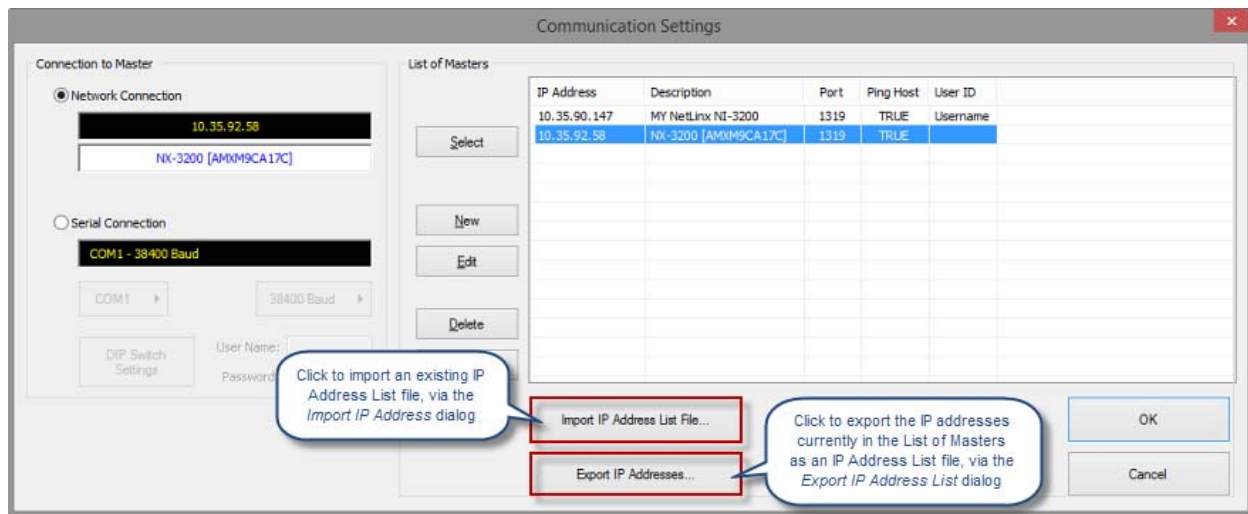

FIG. 66 Communication Settings dialog
*IP Address List Files* provide the option of managing a list of IP Addresses as a separate file (CSV or TXT) that can be imported into RPMLoader, to quickly add target devices for file transfer operations. The **Import IP Address List File** and **Export IP Addresses** options are provided in the *Communication Settings* dialog (FIG. 66):